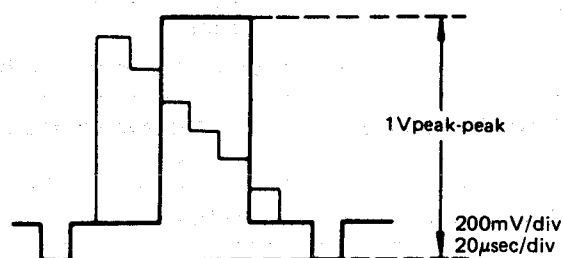

Figure 50.
2. Apply a colour bar signal (stair-step waveform) to the unit. Observe the output at both ends of 75 ohm resistor with an oscilloscope (external trigger, TP202) and adjust R226 (E-E level control) so that the output waveform is as shown in Figure 50.